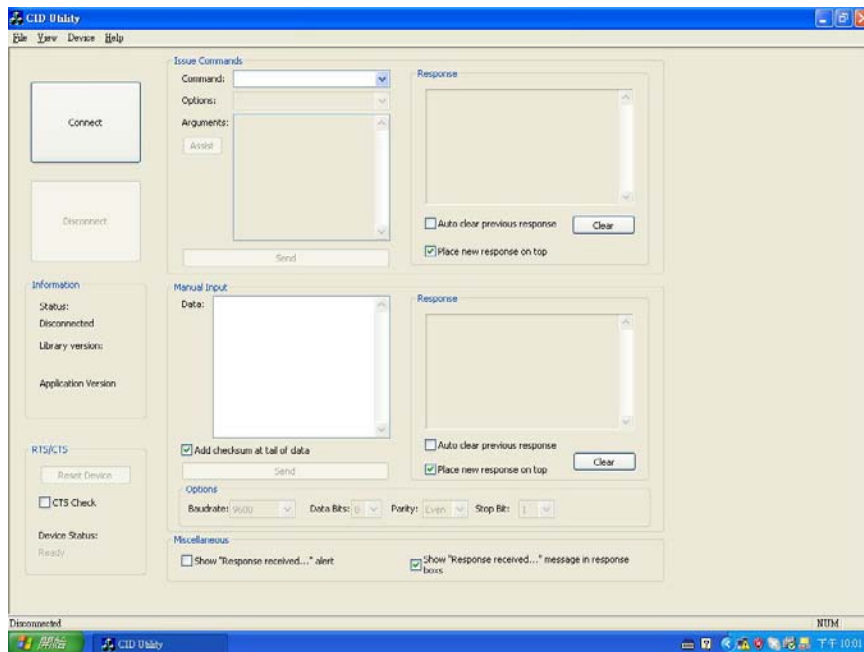

Fig 1
4.1 After execution of CIDtestAP.exe or CIDTestApRs232.exe, a CID Utility window (see Fig 1) will show on the screen instantly,.